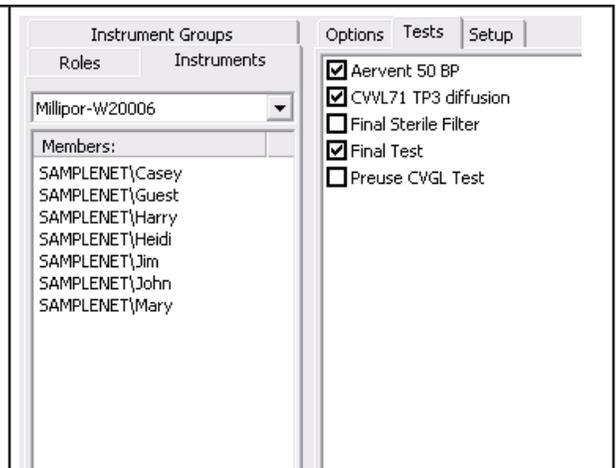

Figure 5: Instruments Tab
The Instruments tab (Figure 5) is used to assign users and tests to instruments, and to configure report transfer, remote backup, and electronic signature options.
1. Select the instrument from the drop-down list in the **Instruments** tab (Figure 5).